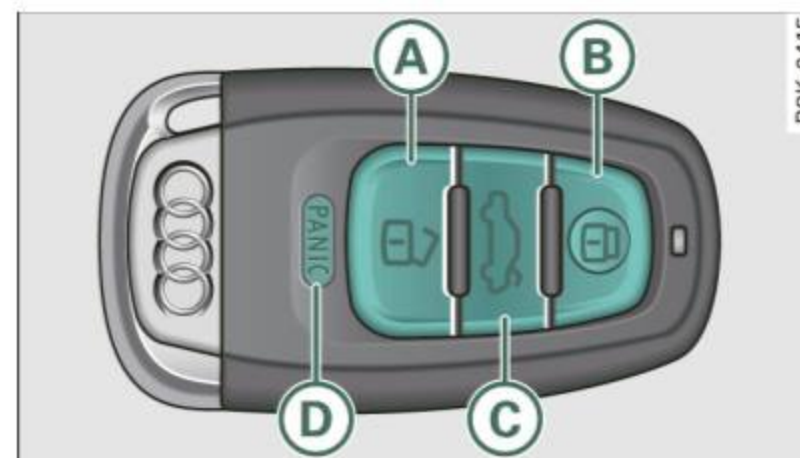

Fig. 33 Remote control: function buttons
If you switch **Trunk lid/tailgate On**, then the handle on the rear lid ⇒ *page 47*, fig. 40 is locked. In this case the rear lid can be opened with the button  on the master key ⇒ *fig. 33* or with the unlocking button in the driver's door ⇒ *page 47*, fig. 39.
- Press button  (**A**) to unlock the vehicle ⇒ *fig. 33*.